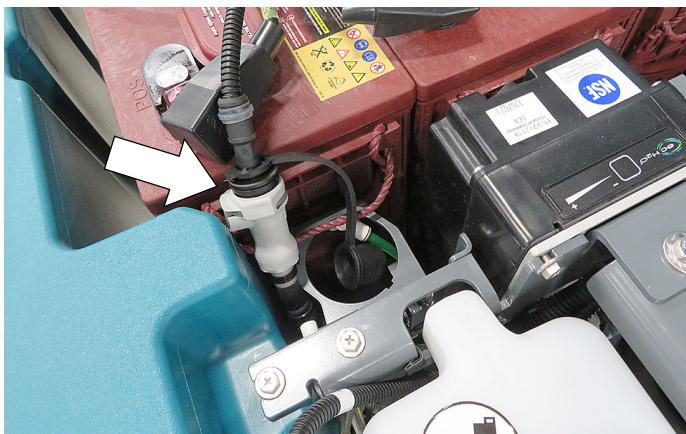

Fig. 10
12. Connect the battery watering tube connector into the ABW hose connector (Figure 10).